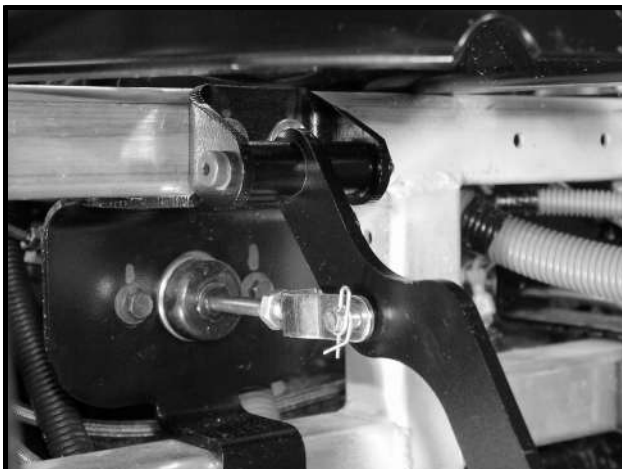

Figure 6-21 Master Cylinder Rod and Brake Pedal
6. Remove the rue pin and clevis pin from the brake pedal and push rod clevis (**Figure 6-21, Page 6-21**).
2. Loosen the jam nut on the push rod clevis, and secure the clevis to the brake pedal with a clevis pin and rue pin (**Figure 6-21, Page 6-21**).